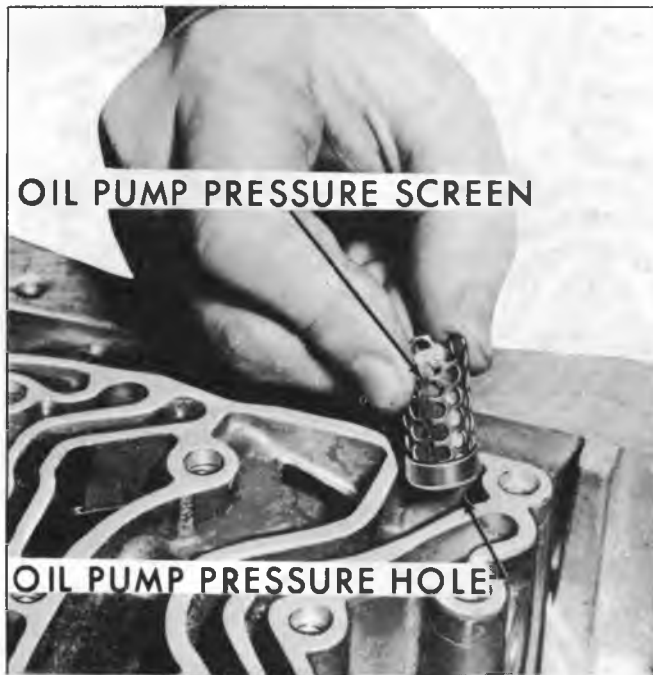

Fig. 17M--Removing Oil Pump Pressure Screen
6. Remove oil pump pressure screen from oil pump pressure hole in case (fig. 17M).